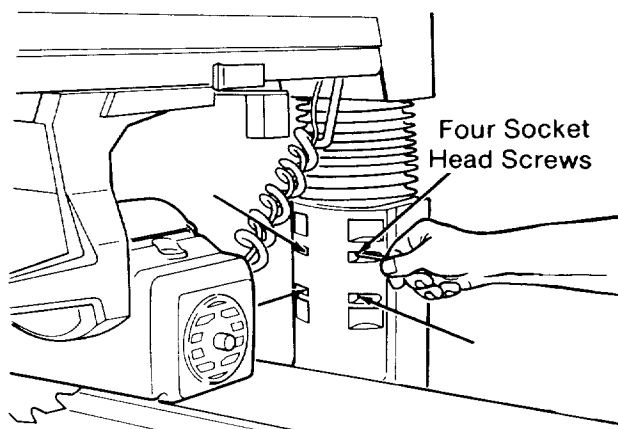

Fig. 53
1. Loosen the four screws in the front of the *column support*. (Figure 53)